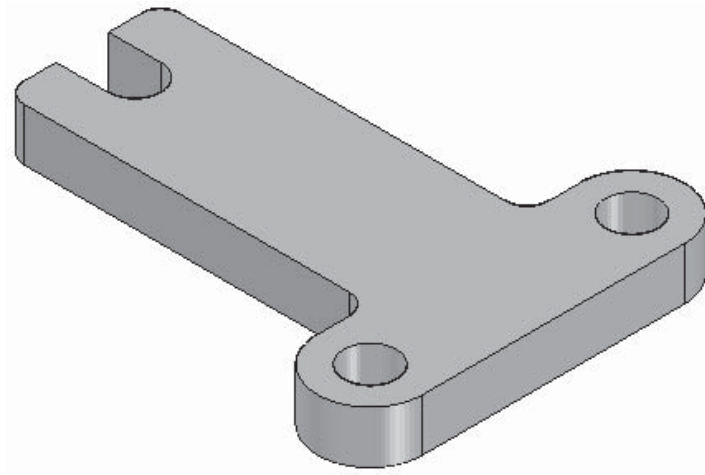

Figure 4-49 Base feature of the model
- Create the base feature with two holes on the x-y plane, refer to Figure 4-49.
6. Choose **Finish** and then choose **Cancel** from the ribbon bar. The base feature of the model is shown in Figure 4-49.